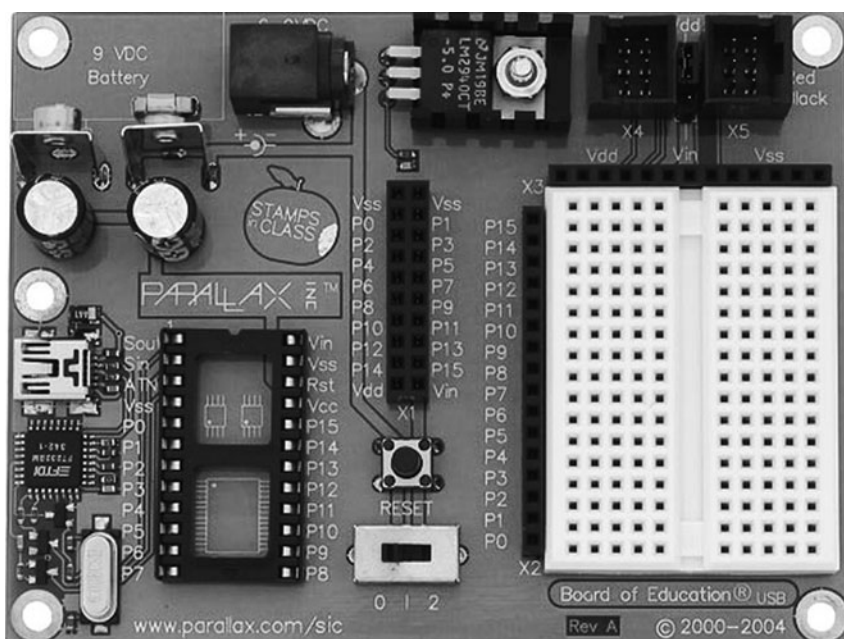

FIGURE 15-4 The USB Board of Education can be used as an experimenter's PCB or even the electronics carrier for your robot.
- The *Board of Education USB programming board* (Fig. 15-4) is recommended for anyone that has never worked with a microcontroller before. This BS2 carrier board provides a socket for the BS2 along with power supply connectors and control, a breadboarding area, servo connectors, as well as a USB programming interface. The USB programming interface provides a USB to serial programming and debug connection between your PC and the BS2, eliminating the need for a serial port.